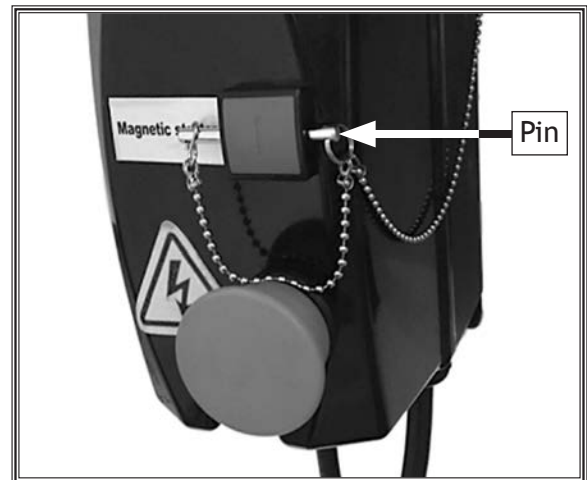

Figure 36. Switch disabling pin inserted into ON button.
6. Insert the switch disabling pin through the green ON button, as shown in **Figure 36**.